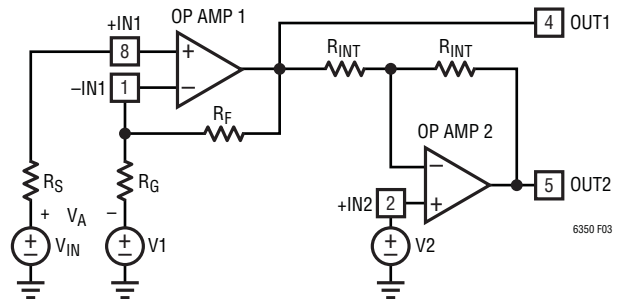

Figure 3. General Configuration
Because the input op amp presents its output and both its inputs to LT6350 pins, alternative configurations are possible. Consider the general configuration shown in Figure 3.
The simple connection described in the Basic Connections section can be seen as a special case of the general circuit in Figure 3 where R_F is a short circuit, R_G is an open circuit, and the voltage at V_{IN} is centered around the voltage $V2$. If differential gain greater than two is needed, the values of R_F and R_G can be adjusted in accordance with Equation (2). Additional information about feedback networks is given in the next section and in the Input Amplifier (Op Amp 1) Feedback Components section.
Although the previous examples have assumed the input signal is applied at +IN1, it is also possible to use the input op amp in an inverting configuration by fixing the voltage V_{IN} and applying the input signal at $V1$ of Figure 3. Using the input op amp in the inverting configuration fixes its input common mode voltage at the voltage V_{IN} , which allows the input signal at $V1$ to traverse a swing beyond the LT6350 supply rails. To avoid unwanted differential offsets in this configuration V_{IN} should be chosen such that:
When feedback resistors are used to set gain in op amp 1, care should be taken to ensure that the pole formed by the feedback resistors and the total capacitance at the inverting input, -IN1, does not degrade stability. For instance, to set the LT6350 in a differential gain of +4, R_F and R_G of Figure 3 could be set to $1k\Omega$. If the total capacitance at -IN1 (LT6350 plus PC board) were $3pF$, a new pole would be formed in the loop response at $106MHz$, which could lead to ringing in the step response. A capacitor connected across the feedback resistor and having the same value